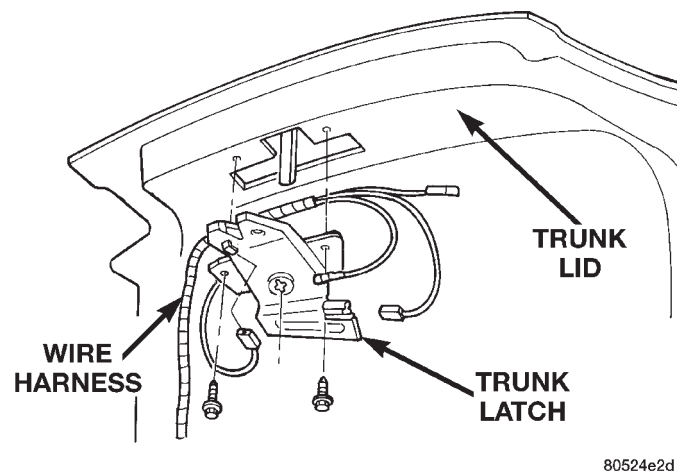

Fig. 73 Trunk Latch
- (1) Release trunk latch and open trunk lid.
- (2) Mark outline of trunk latch on trunk lid to aid in installation.
- (3) Disconnect wire connectors to remote release solenoid, if so equipped (Fig. 73).
- (4) Remove bolts holding trunk latch to trunk lid.
- (5) Separate trunk latch from vehicle.